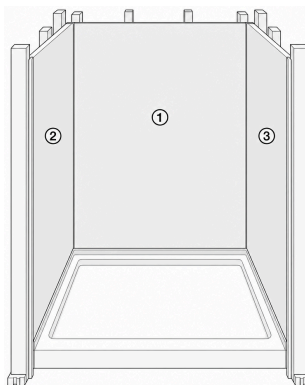

Fig. 2: Wallboard order: ① back, ② left, ③ right
1. Install 1/2" moisture-resistant cement board or greenboard over the rough opening in the order shown (Fig. 2): ① the back wall, ② the left wall, ③ the right wall.